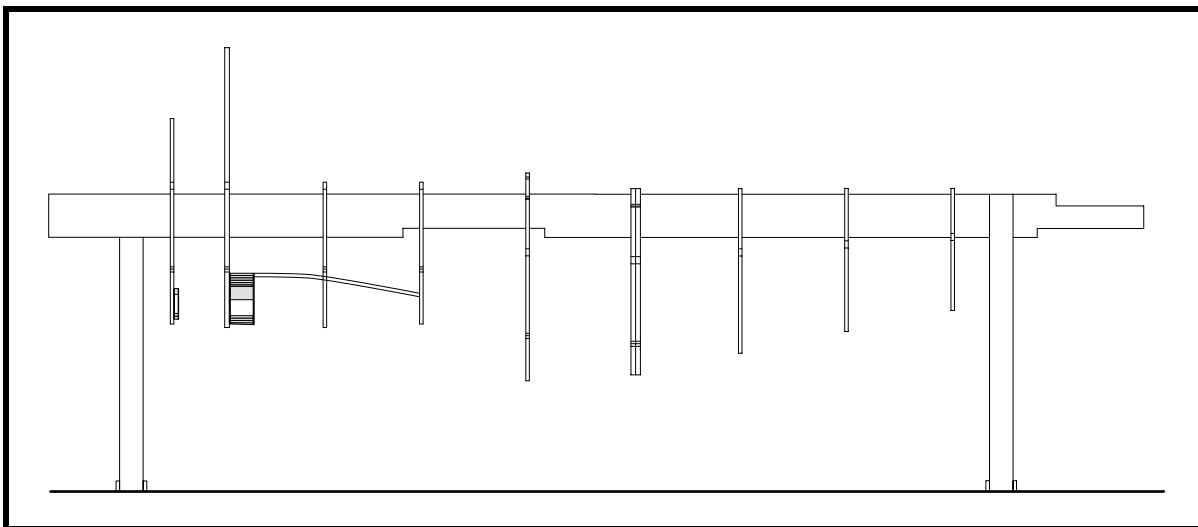

Figure 8
- ❑ Place the fuselage jig in place on the wing assembly. Slip fuselage frames No. 7, 8, 9, 10 and 11 over the jig. See Figure 8.